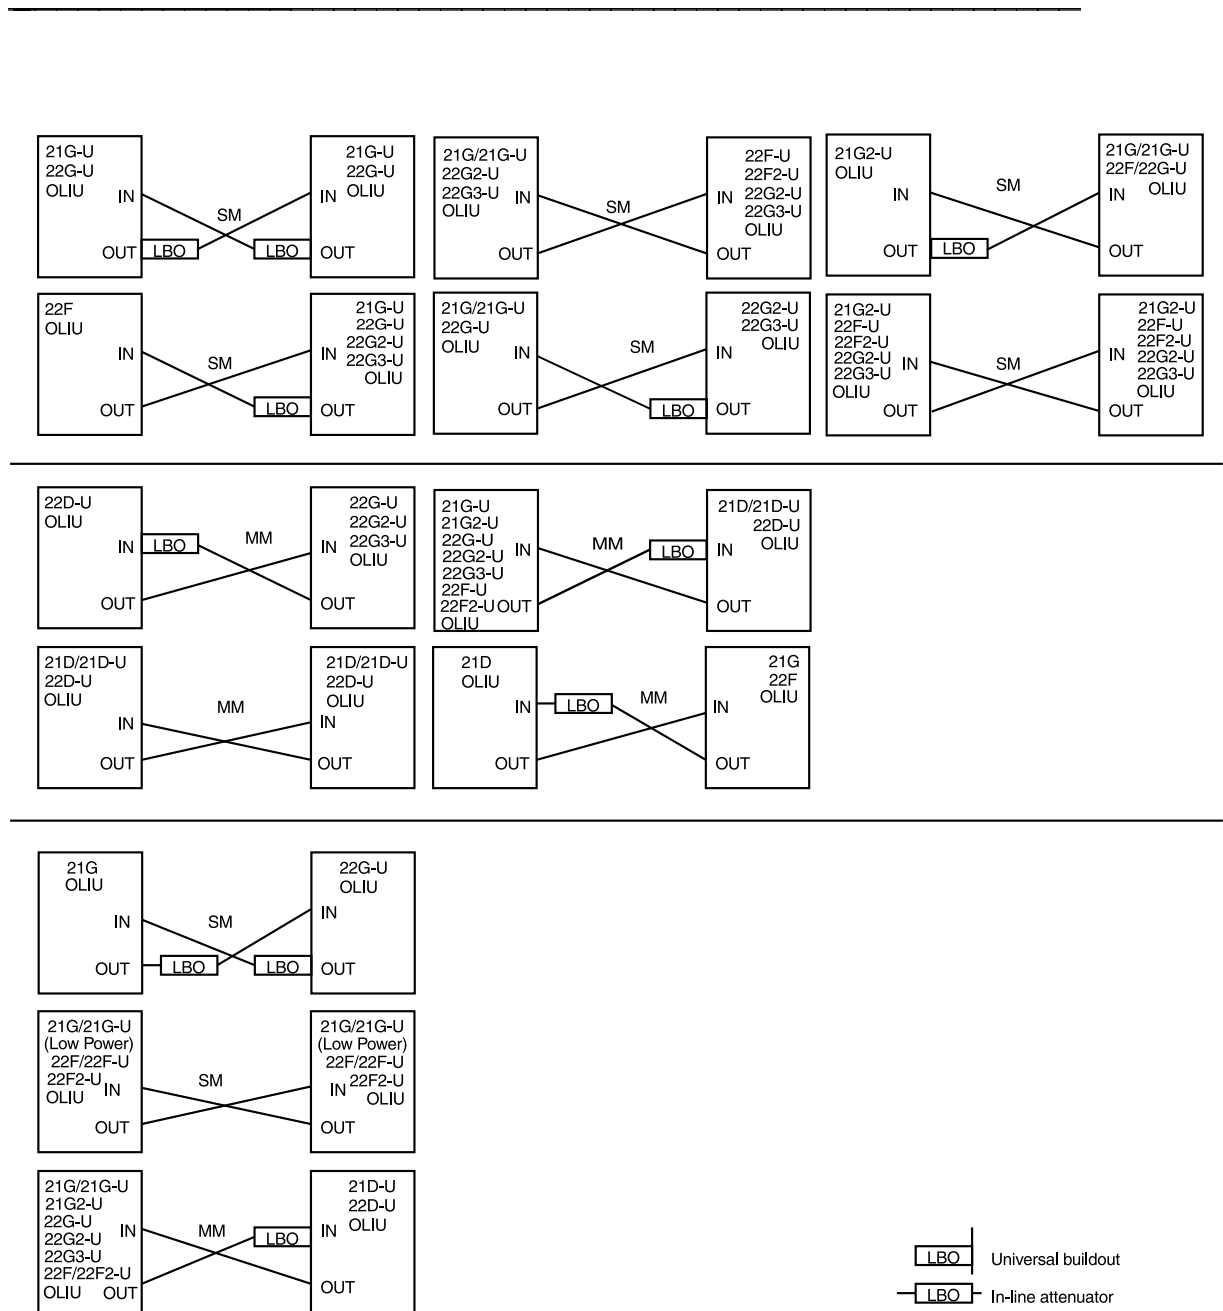

Figure 1. DDM-2000 OC-3 to OC-3 or OC-3 to OC-12 FN Fiber Optic Connections and Line Buildouts
Steps 6 through 9 are used to measure optical power. Replace LBOs with 0 dB LBOs per Figures 1, 2, 3, and/or 4. Connect the optical fiber transmit cable to the **OLI** **OUT** connection. Measure the optical power of the optical fiber receive cables at the other ends using an optical power meter.
6. At both ends of the optical span, replace the *ST*, FCPC, or SC LBOs with 0 dB LBOs per Figures 1, 2, 3, and/or 4 [**DLP-552**].
9. Replace the lightguide buildout assemblies with the correct buildout assemblies per Figures 1, 2, 3, and/or 4 and Tables C, D, E, F, G, H, I, J, K, L, M, and/or N [**DLP-552**].